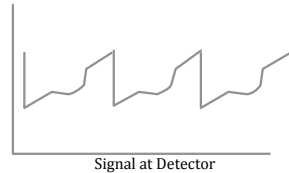

Figure 2.
- The light is then focused on a detector. **Figure 2.**